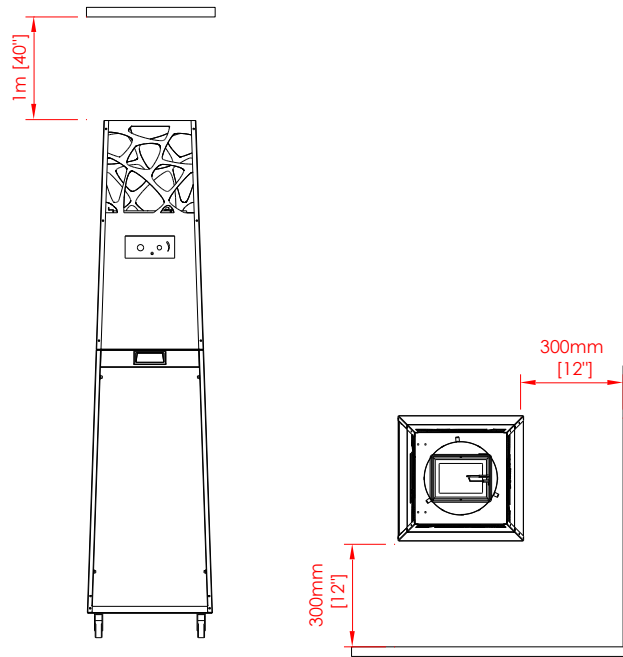

Fig 2 – Minimum distances
- This appliance must be kept away from flammable materials during use. Do not place any combustible materials within a distance of 0,3 m of PYRAMID and 1 m over the appliance (Fig 2).